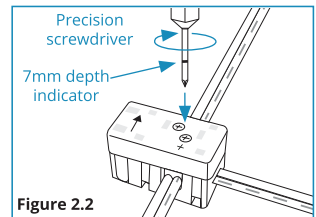

Figure 2.2
4. Next, use a precision screw driver (sold separately: TX1-PSD-PH00) to tighten the connection block's screws to pierce the wires (Figure 2.2). Our precision screw driver has a depth marking (at 7mm) that indicates the correct screw penetration depth.